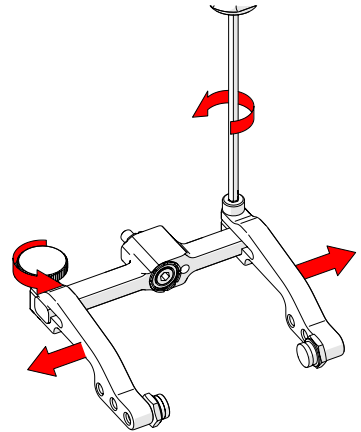

Fig. 106 - Remove probe holder arms
3. Loosen the probe holder arm adjustment knob and the arm clamp screw. Slide the probe holder arms off the yoke (Fig. 106).